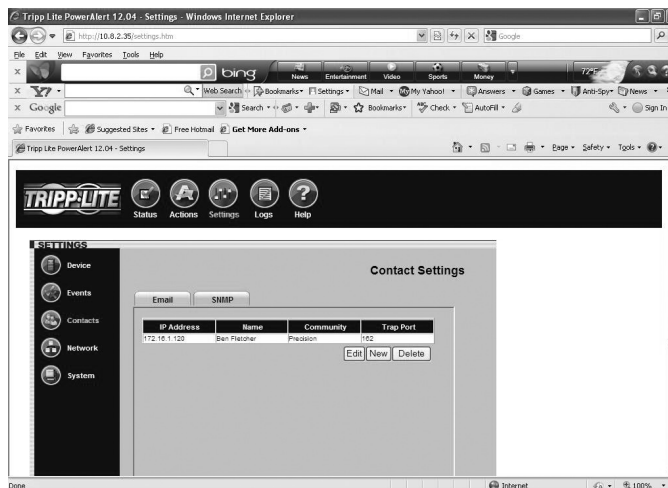

Figure 3-14: Settings > Contacts > SNMP Tab
- **“SNMP Trap Notification”**—Sends an SNMP trap to a specified IP address(es) in your SNMP list. (Requires an SNMP contact to be set. See **Figure 3.14 Settings > Contacts**.)
- **“SNMP Set Notification”**—Allows the device to perform an SNMP set on another SNMP-enabled device or application on the network, allowing the device or application to be notified when the event occurs. (Requires an SNMP contact to be set. See **Figure 3.14 > Contacts**.)
The “SNMP” tab (Figure 3-14) shows a table of SNMP contacts. Before your SNMPWEBCARD can send an SNMP trap or SNMP set to an IP address, you must add at least one SNMP contact. Add a new contact by clicking the “New” button and entering the information requested, and save. If you do not know the correct settings, contact your network administrator. (The standard port for SNMP set destinations is port 161. The standard port for SNMP trap recipients is port 162.)